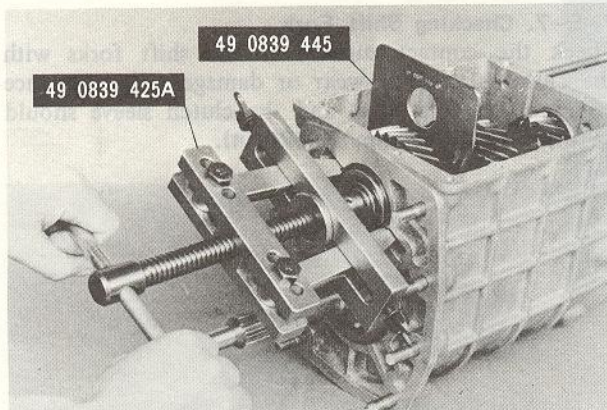

Fig. 7-12 Removing counter shaft front bearing
25. Remove the snap ring that secures the counter shaft front bearing to the front end of the counter shaft. Using the **bearing puller** (Part No. 49 0839 425A) shown in Fig. 7-12, remove the counter shaft front bearing.